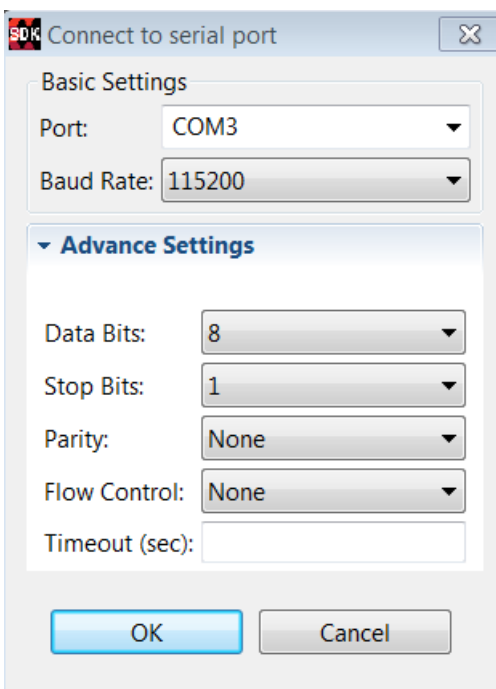

Figure 10-23: Terminal Settings
- d. Change the Baud Rate to 115200 (Figure 10-23).